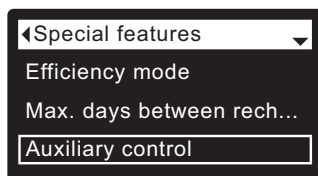

FIG. 89
1. From any of the rolling status screens, press the SELECT (O) button to display the **Main menu**.
3. Press the SELECT (O) button to display the Advanced settings menu.
5. Press the SELECT (O) button to display the Special features menu (See Figure 89).
9. Press the SELECT (O) button. The display will go back to the Special features menu (Figure 89).